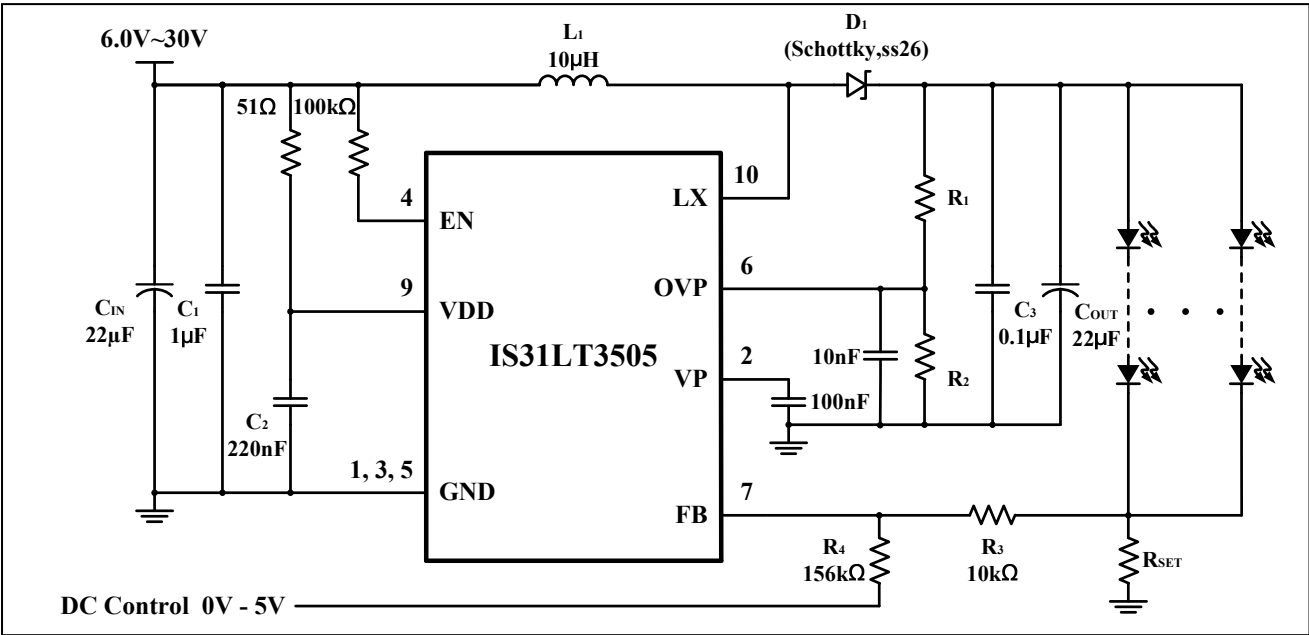

Figure 14 Application Circuit (Constant Current to Drive White LEDs With DC Dimming)
IS31LT3505 can modulate the brightness of LEDs by controlling the DC voltage or the PWM duty cycle (Figure 14, 15).
Figure 14 shows that the intensity of the LEDs can be adjusted by the DC voltage. As the DC voltage increases, the current pass through R3 increasing and the voltage drop on R3 increase, i.e. the LED current decreases. The LED current can be calculated by the Formula (2). The internal feedback voltage  $V_{FB}$  is 0.3V (Typ.).
When the DC voltage is from 0V to 5V, the value of R3 should be 10k $\Omega$ . Refer to Figure 14.